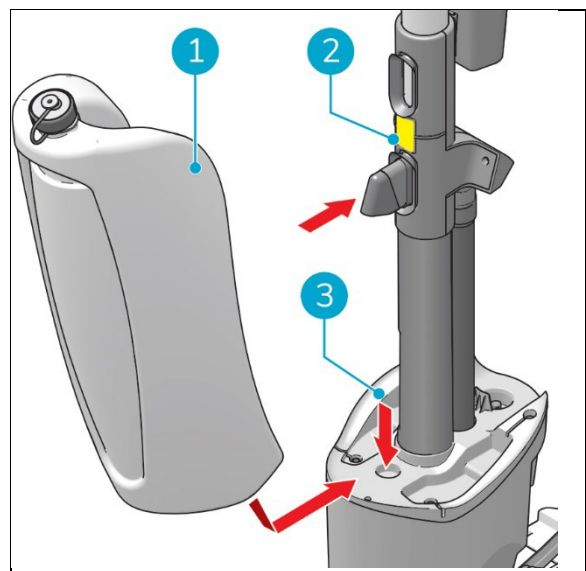

Figure 11
1. Put the bottom of the recovery tank (Figure 11, pos. 1) on the front of the i-mop® XL Pro (Figure 11, pos. 3).
2. Push the top of the tank into place until you hear a 'click' sound, the magnet (Figure 11, pos. 2) will lock the recovery tank into place.